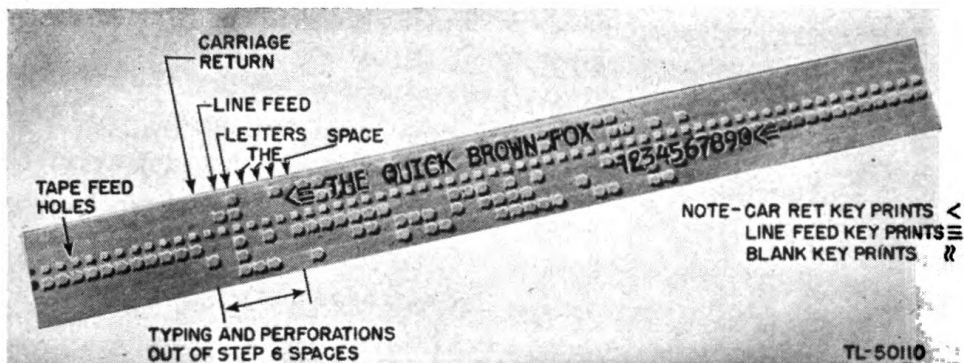

Figure 7. Typing reperforator tape sample.
(16) *Tape.* Tape perforated by the typing reperforator is the chadless type; that is, the perforations are not punched out of the tape in a complete circle, but each punching or chad is hinged at the leading edge (fig. 7). This makes it possible for the typewritten character to be read easily since no parts of the typewritten letters are missing on the tape. This method also does away with the need of having containers to catch chads and avoids the possibility of chads clogging the reperforator mechanism. The transmitter-distributor will transmit from old-style, completely perforated tape as well as from chadless tape.